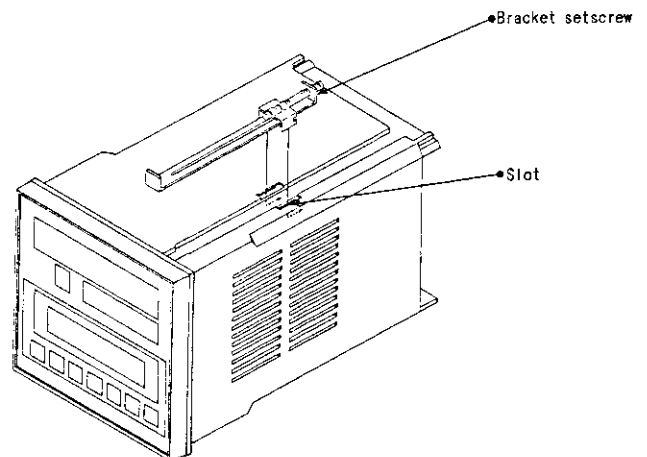

Fig.1
- ① Mount the panel cutout corresponding to the number of units on the panel by referring to panel cutout dimensions.
- ② Insert the instrument into the panel from the front side.
- ③ Engage each mounting bracket with the bracket insertion slots.(Fig.1)
- ④ Then tighten the mounting bracket setscrew from the rear with a Phillips screwdriver.